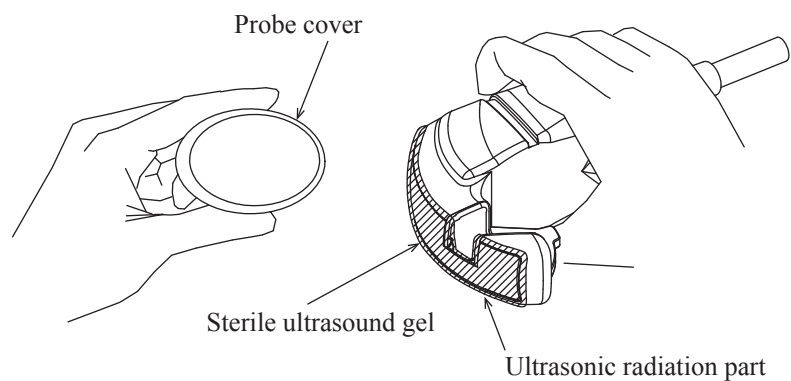

Figure 4 Sterile ultrasound gel applied to the ultrasonic radiation part
- (1) Apply sterile ultrasound gel to the ultrasonic radiation part (Figure 4).